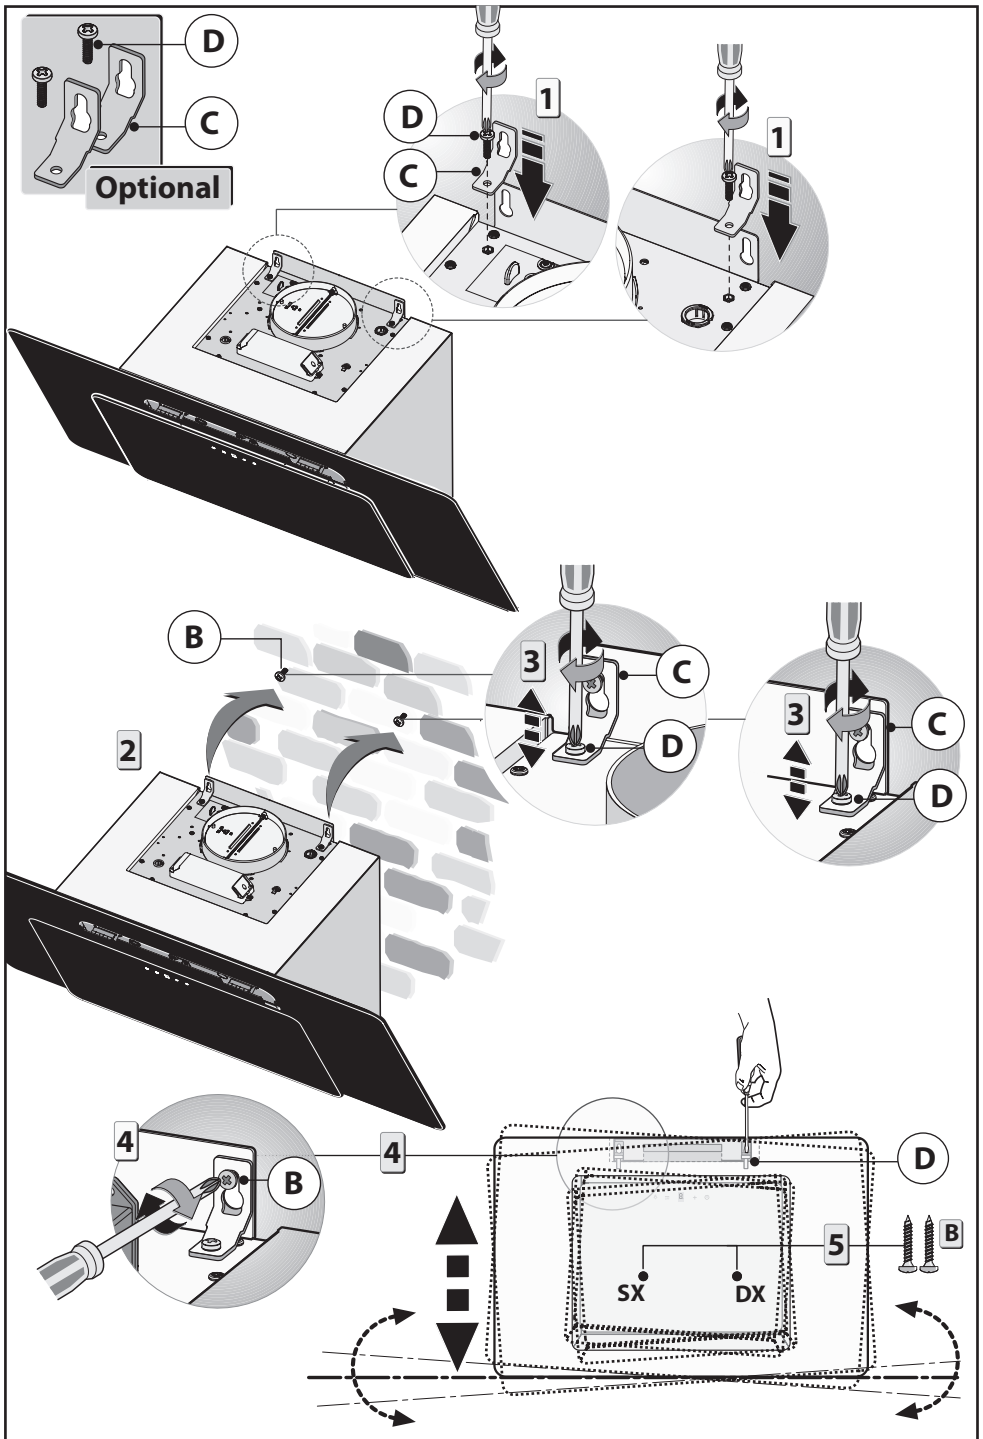

Fig.4
• Fixing to the wall OPTIONAL ACCESSORIES (Fig.4):
- Take the two levelling brackets **C** and fix them to the hood support with the screws **D** as indicated in figure 4 - step 1. Do not tighten the 2 levelling screws **D**.
- Take the appliance and hang it on the two screws **B** figure 4 - step 2.
- Align the appliance horizontally by adjusting the two levelling screws **D** figure 4 - step 3.
- When you have finished the adjustment, tighten the 2 screws **B** figure 4 - step 4 and mount the hood on the wall permanently using the two safety screws **B** figure 4 - step 5.